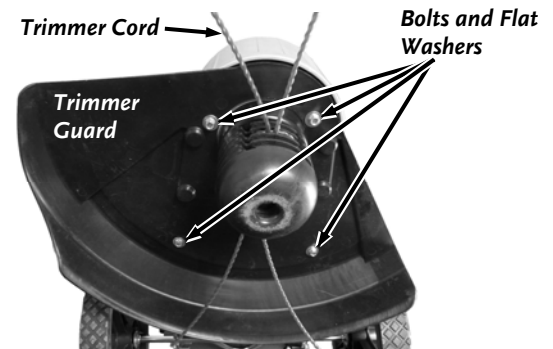

Figure 23
3. Remove the four Trimmer Guard Bolts and Flat Washers with a 3/8" Wrench. Remove the Trimmer Guard (**Figure 23**).
11. Position the Trimmer Guard and secure with the four Bolts and Flat Washers using the 3/8" Wrench (**Figure 23**).